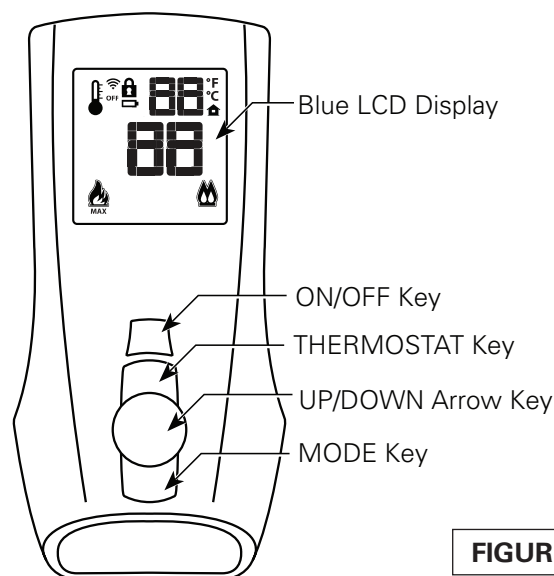
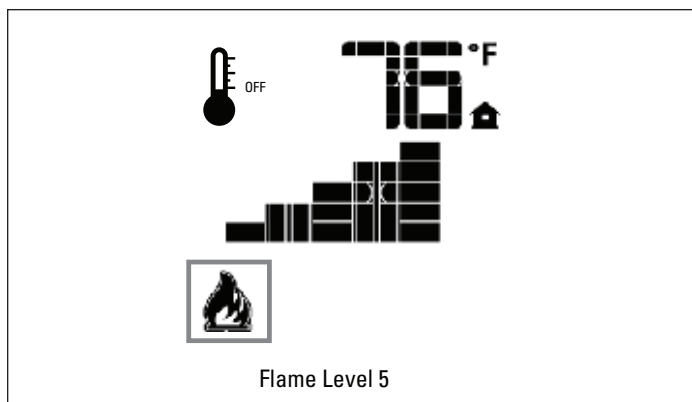

FIGURE 56
FIGURE 57
The Remote allows you to command the functions of your appliance from the comfort of your chair and is configured to control the On/Off primary burner operation, its flame height through six (6) levels, and provides On/Off control of the appliance. **(Figure 56)**
With the system in the "OFF" position, press the Thermostat Key and the Mode Key at the same time. **(Figure 56)** Look at the LCD screen on the Remote to verify that a C or F is visible to the right of the Room Temperature display. **(Figure 57)**
Press the ON/OFF Key on the Remote. The Remote display will show all active Icons on the screen and the appliance main burner will turn on. **(Figure 57)** A single “beep” from the Receiver will confirm reception of the command.
The system has six (6) flame levels. See **Figure 57** for an example. With the system on, and the flame level at the maximum in the appliance, pressing the Down Arrow Key once will reduce the flame height by one step until the flame is turned off.